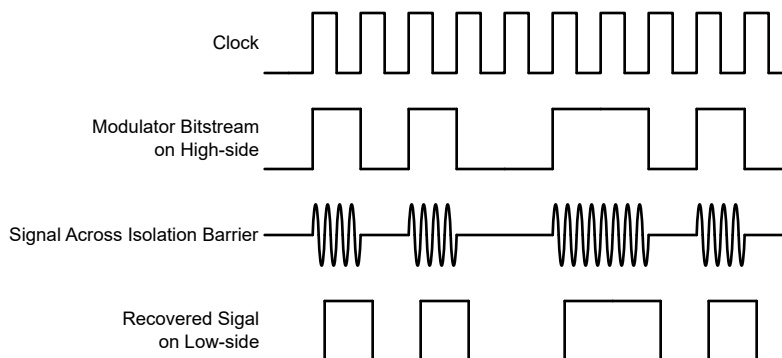

Figure 7-3. OOK-Based Modulation Scheme
The AMC1306M05-Q1 uses an on-off keying (OOK) modulation scheme, as shown in Figure 7-3, to transmit the modulator output bitstream across the SiO₂-based isolation barrier. The transmit driver (TX) shown in the Functional Block Diagram transmits an internally generated, high-frequency carrier across the isolation barrier to represent a digital *one* and does not send a signal to represent a digital *zero*. The nominal frequency of the carrier used inside the AMC1306M05-Q1 is 480 MHz.